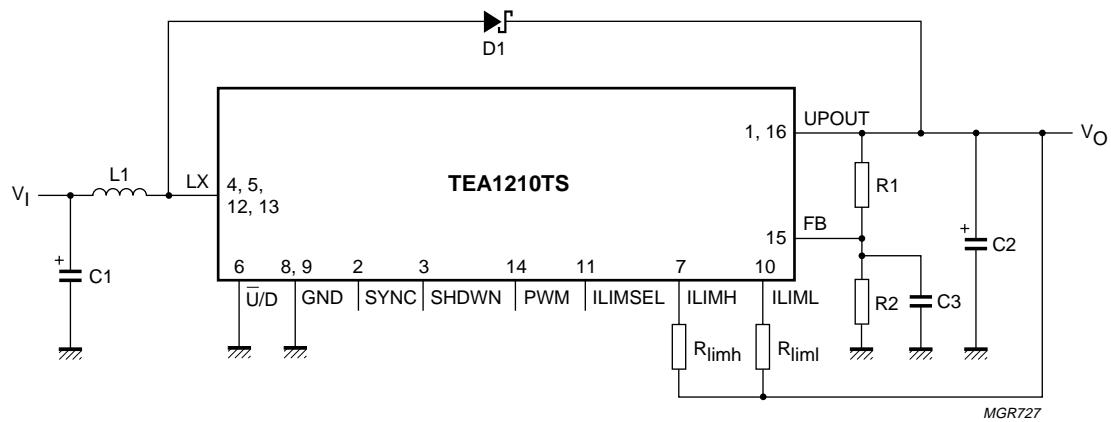

Fig.5 Complete application for upconversion.
3. The quiescent current is specified as the input current in the upconversion configuration at $V_1 = 2.40$ V and $V_O = 3.60$ V, using $L_1 = 6.8 \mu\text{H}$, $R_1 = 178 \text{ k}\Omega$ and $R_2 = 93.1 \text{ k}\Omega$ (see Fig.5).